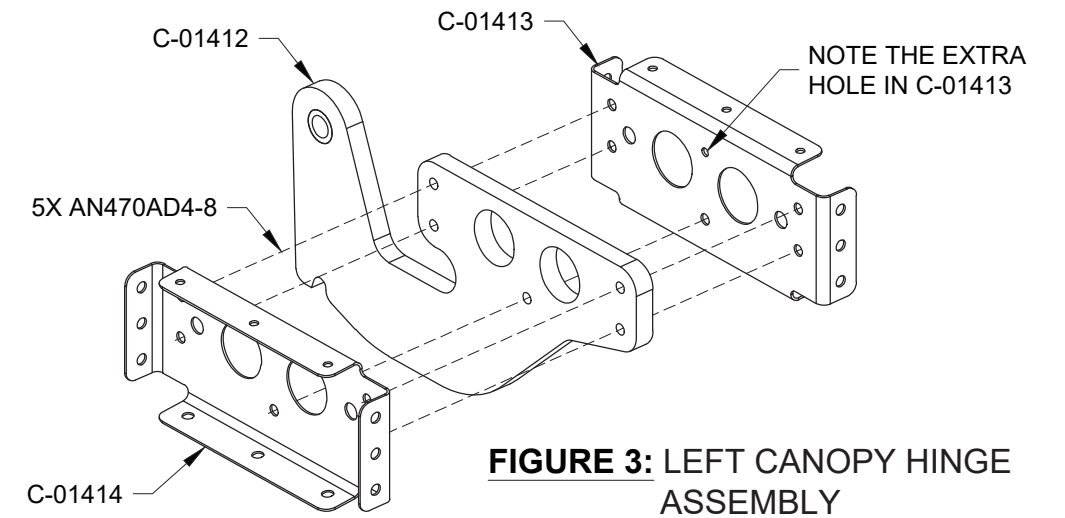

FIGURE 3: LEFT CANOPY HINGE ASSEMBLY
Step 9: Rivet together the Left and Right Canopy Hinge Assemblies as shown in Figure 3 and Figure 4.